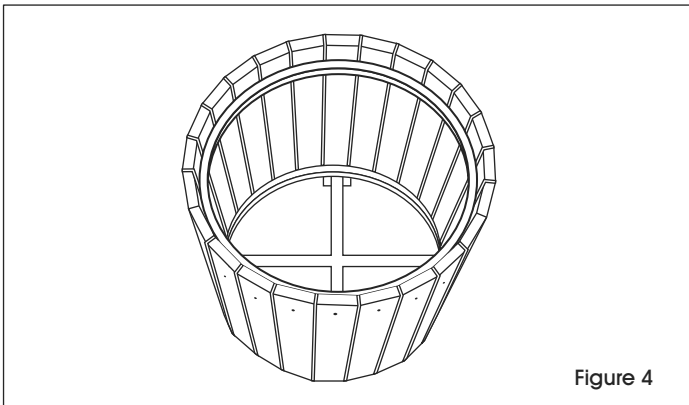

Figure 4
7. Using the same directions listed in steps 2, 3 and 4, line up the top ring with the resinwood slats and repeat the process until all resinwood slats have been attached to the top ring. You may now tighten all bolts remembering to make sure the can is put together evenly. (See Figure 4)